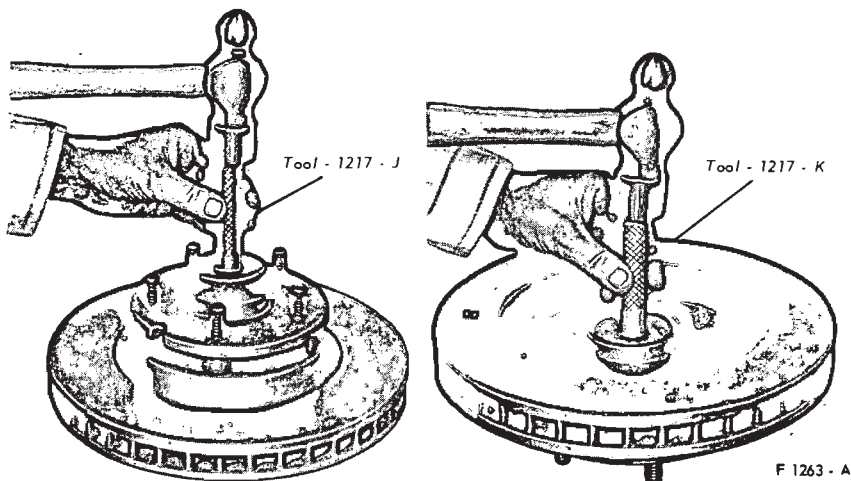

FIG. 7—Installing Front Wheel Bearing Cup—Disc
11. If the inner and/or outer bearing cup(s) were removed, install the replacement cup(s) in the hub with the tools shown in Fig. 7. **Be sure to seat the cups properly in the hub.**